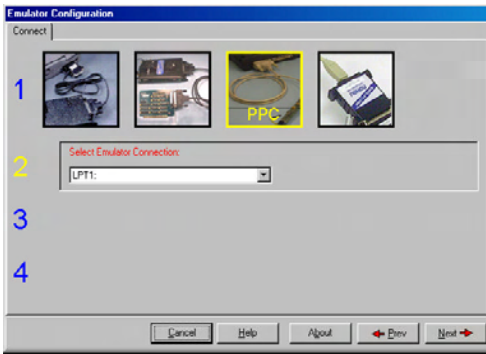

Figure 3 Connect
- 5) The Emulator Configuration Communications window appears as in Figure 3.